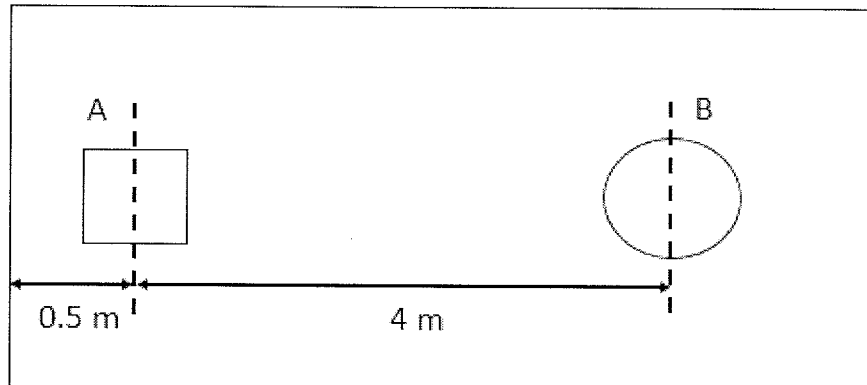

Figure 1
7. Design a combined foundation for two columns carrying an axial load of 1200 kN on column A and 1500 kN on column B. Column 'A' is 40cm x 40cm in size and column 'B' is 45cm in diameter. The columns are spaced 4m apart as shown in figure 1. The SBC of soil is 150 kN/m². Use M20 and Fe415 grade of concrete and steel. Draw top and bottom plan which shows the reinforcement details. (C.O.No.3) [Application]